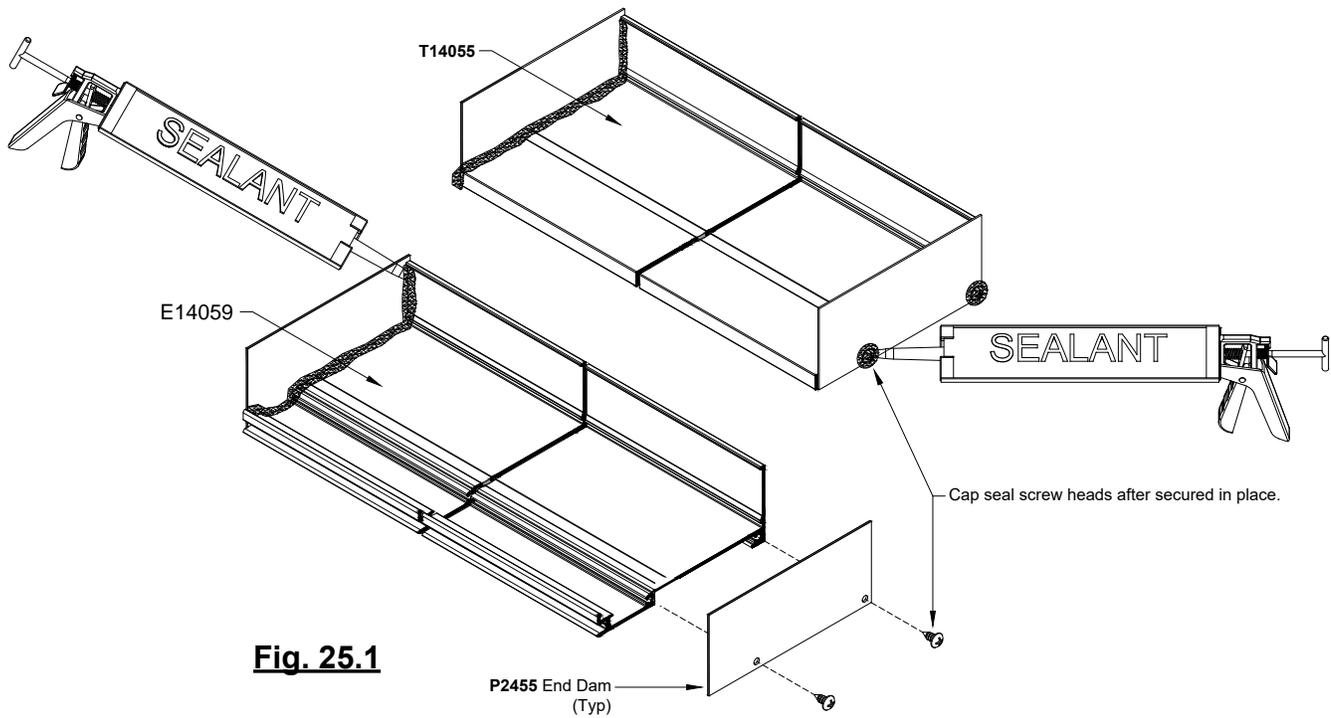

Fig. 25.1
- A. At a building structure, attach an end dam (P2455) to the end of the sill flashing with two S196 fasteners and seal the sill to the end dam as shown in **Fig. 25.1**.